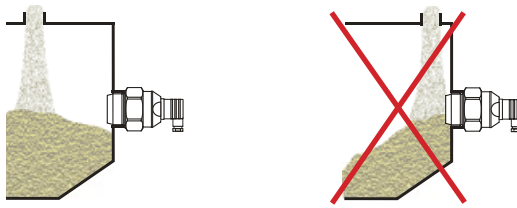

Fig. 5: Location of the filling point
- The emplacement of the **filling point** must be carried out in such a way that the subsequent material flow does not interfere with the sensor's scanning field. False activation (blocking) of the sensor could follow (fig. 5).